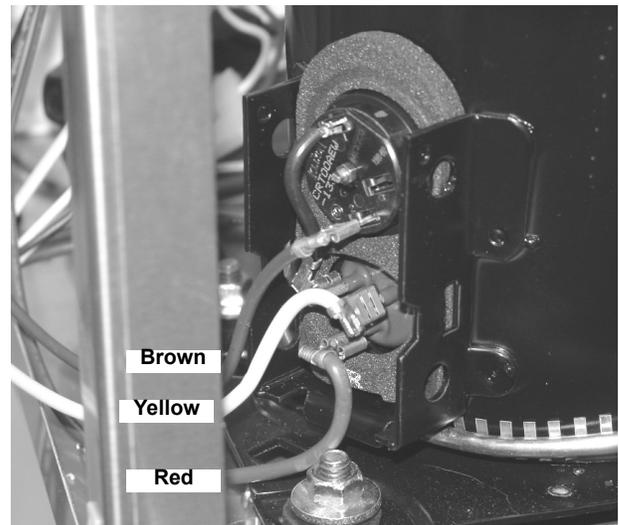

Figure 14.
10. Remove the junction box cover and disconnect all electrical leads to the compressor (Figure 14).